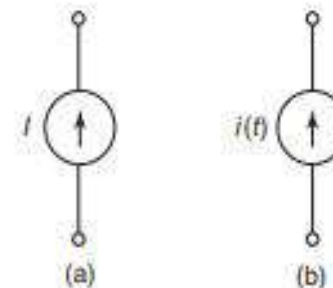

Fig. 1.2 Symbols for independent current source
**2. Independent Current Source** An independent current source is a two-terminal network element which produces a specified current. The value and direction of this current at any instant is independent of the value or direction of the voltage that appears across the terminals of the source. The symbols for such current sources are shown in Fig. 1.2.